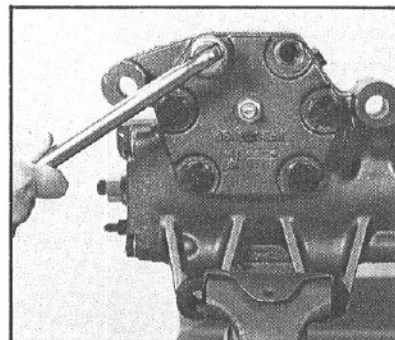

Figure 39
7. Prepare for fluid to drain, and remove the six special bolts (61) from the side cover (58) with a 15/16 inch socket (FIG. 39).